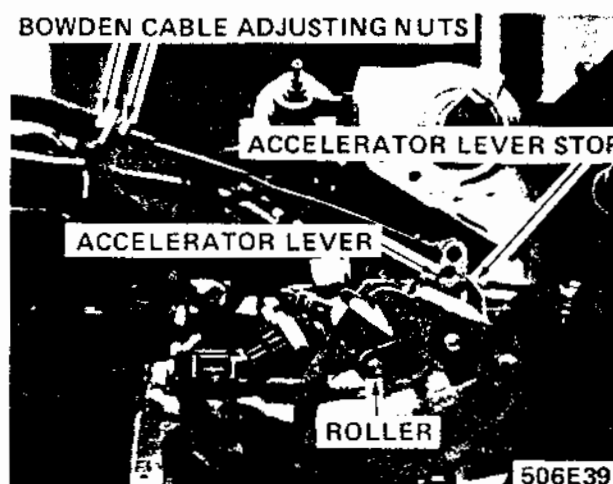

Figure 6E-39 Adjusting Bowden Cable
1. Adjust bowden cable at rocker arm cover so that the accelerator lever touches the accelerator lever stop, and slack in the bowden cable is minimal. See Figure 6E-39.